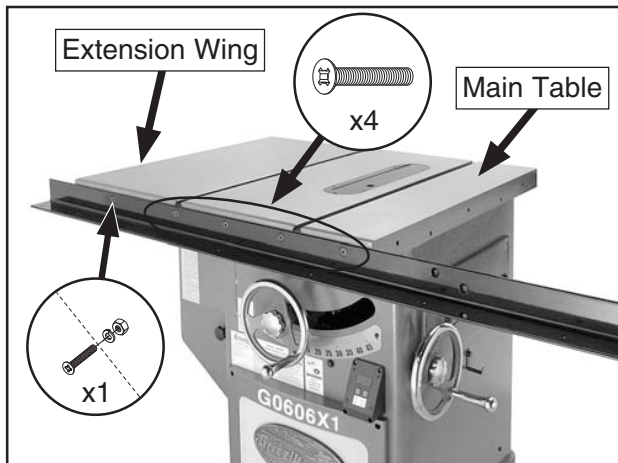

Figure 23. Front rail installed (Model G0605X1 shown).
1. Fasten the front rail onto the main table with (4) M8-1.25 x 25 flat head screws, as shown in **Figure 23**.
2. Secure the left side of the front rail to the pre-installed extension wing with (1) M8-1.25 x 25 flat head screw, 8mm lock washer, and M8-1.25 hex nut (see **Figure 23**).